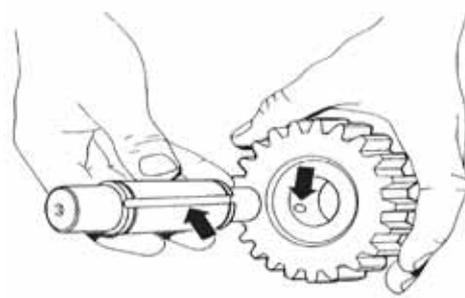

Figure 8 Channel and Steel Ball
- s.** Align the channel in the idler shaft with the steel ball in the idler gear shown in Figure 8.